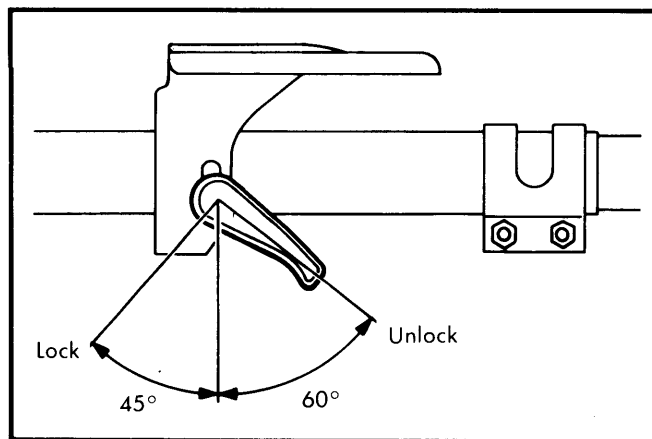

Fig. 5 Installing Tilt Bolt and Lock Tilt Lever into Tilt Bracket
8) Mount tilt bracket on column tube. Insert tilt bolt and lock tilt lever into position as shown in Fig. 5. Place block onto tilt bolt in order to lock the bolt. Insert washer and nut on tilt bolt and tighten. Weld nut to tilt bolt.